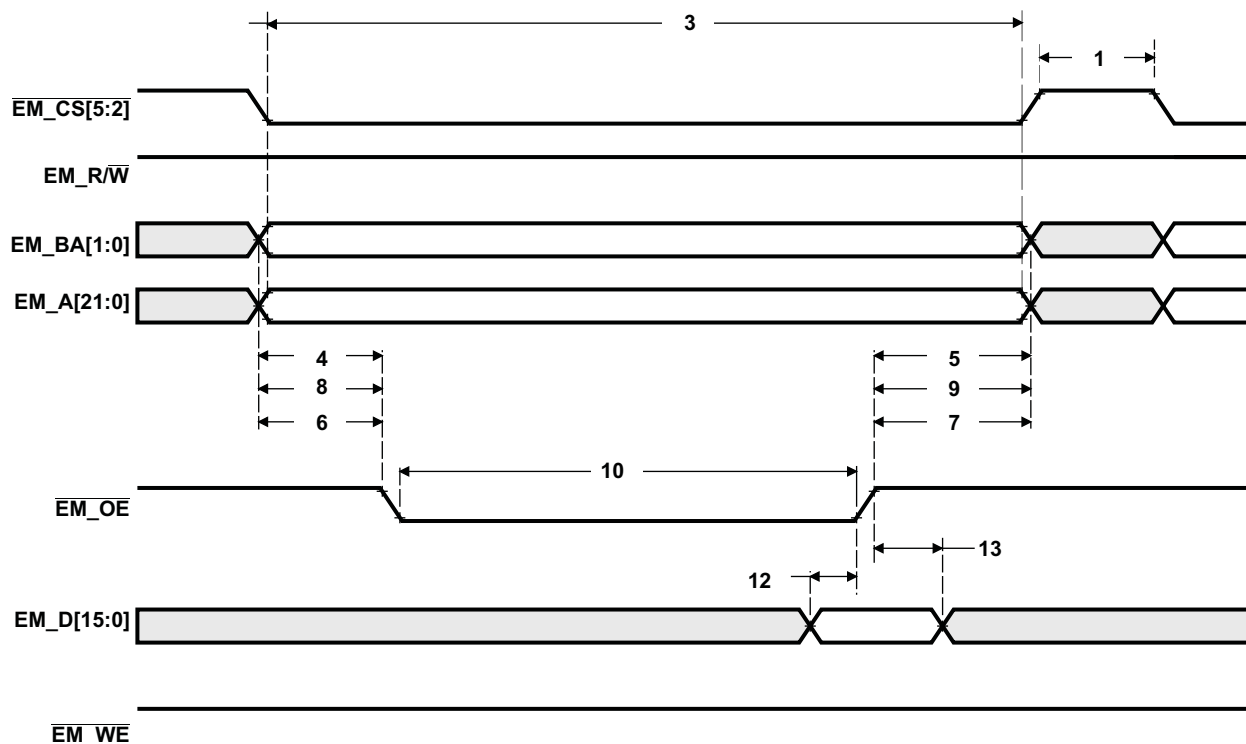
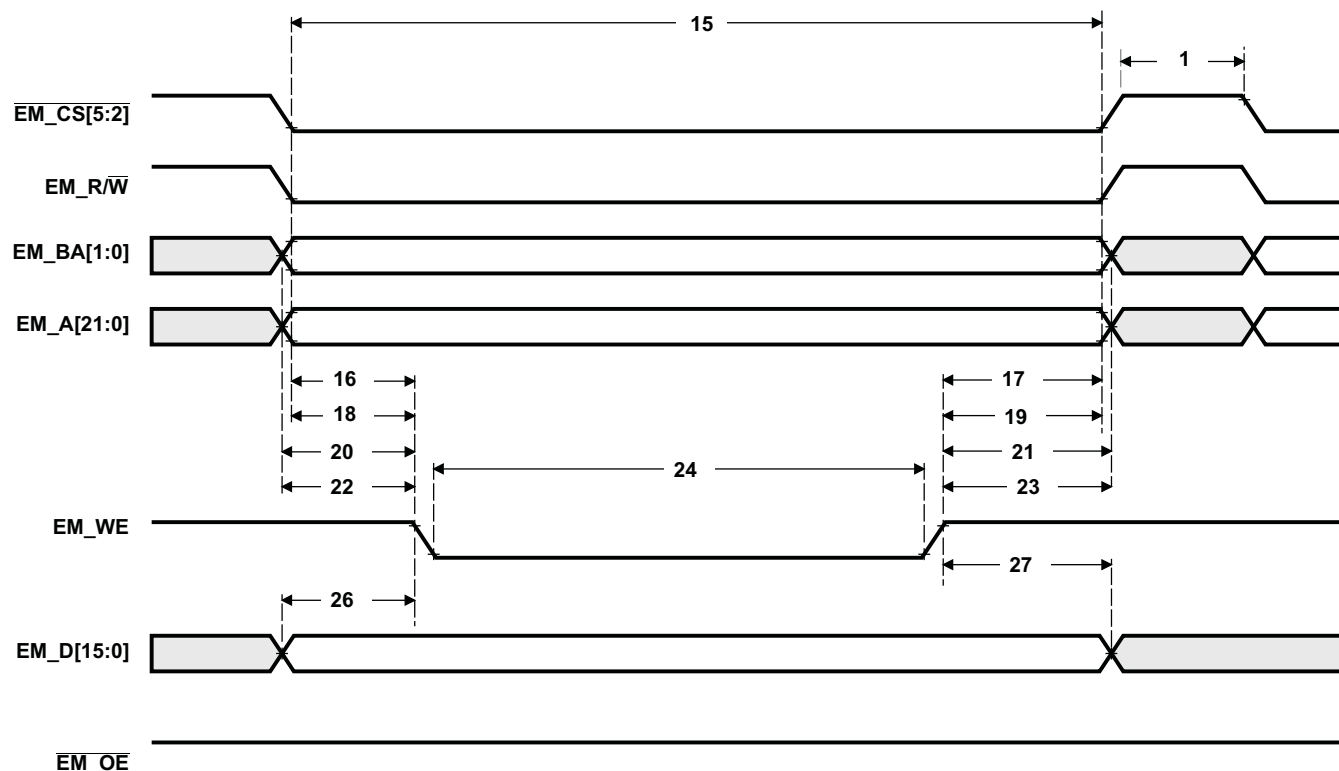

Figure 6-14. Asynchronous Memory Read Timing for EMIF
Figure 6-15. Asynchronous Memory Write Timing for EMIF
(see Figure 6-14 and Figure 6-15)
Table 6-25. Switching Characteristics Over Recommended Operating Conditions for Asynchronous Memory Cycles for EMIFA Module^{(1) (2)} (see Figure 6-14 and Figure 6-15)
Table 6-25. Switching Characteristics Over Recommended Operating Conditions for Asynchronous Memory Cycles for EMIFA Module ⁽¹⁾ ⁽²⁾ (see Figure 6-14 and Figure 6-15) (continued)